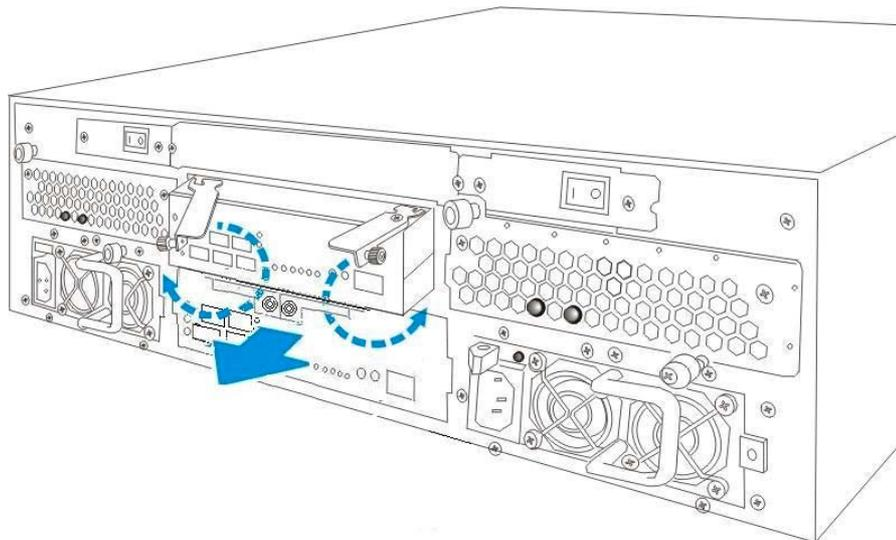

Figure 5-3: Gently Slide the Controller Out of the Chassis
Step 5. Carefully pull the controller module out of the subsystem chassis. (See *Figure 5-3*)